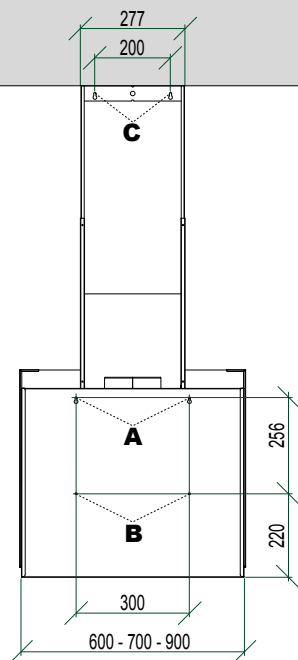

Fig.4
- rotate the 2 carbon filters to remove them (Fig.4)